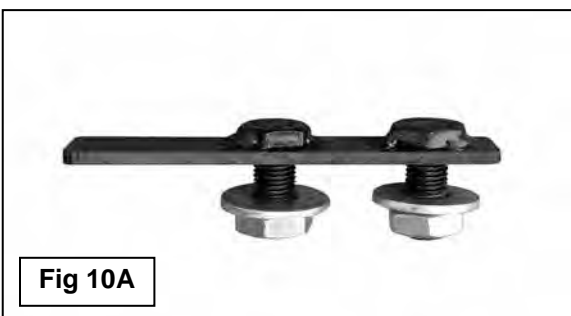
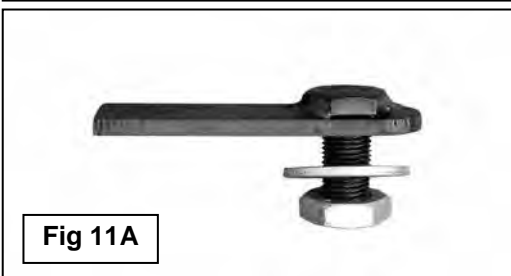

Fig 10A
Fig 11A
- i. Select (1) 12mm Double Bolt Plate, **(Fig 10A)**. Insert the Bolt Plate into the end of the frame channel, through the (2) holes in the side of the frame and out through the Bracket. Secure the Bolt Plate to the Bracket with (2) 12mm Flat Washers, (2) 12mm Lock Washers and (2) 12mm Hex Nuts, **(Fig 10B)**. Snug but do not fully tighten hardware at this time. Repeat this **Step** to install the 12mm x 35mm Single Bolt Plate, **(Fig 11A)**, into the remaining hole in the other side of the frame channel and Bracket, **(Figs 11B & 11C)**.